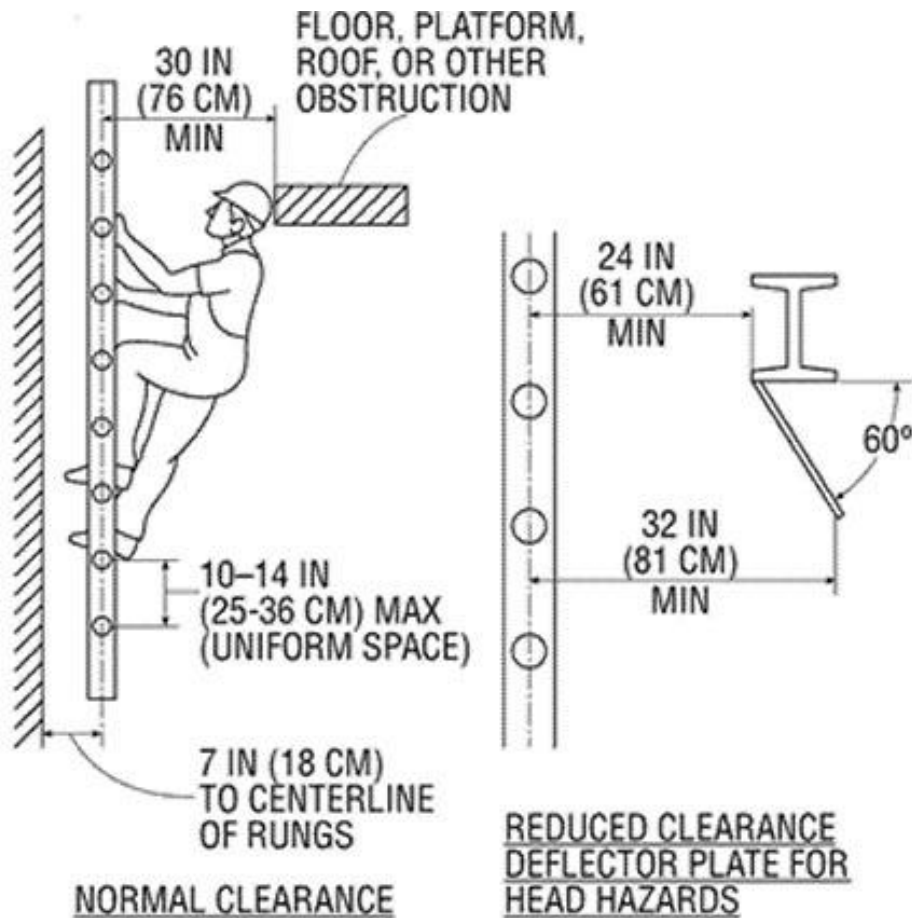

Figure D-5 -- Fixed Ladder Clearances.
- A minimum perpendicular distance of 30 inches (76 cm) from the centerline of the steps or rungs to the nearest object on the climbing side. When unavoidable obstructions are encountered, the minimum clearance at the obstruction may be reduced to 24 inches (61 cm), provided deflector plates are installed (see Figure D-5).